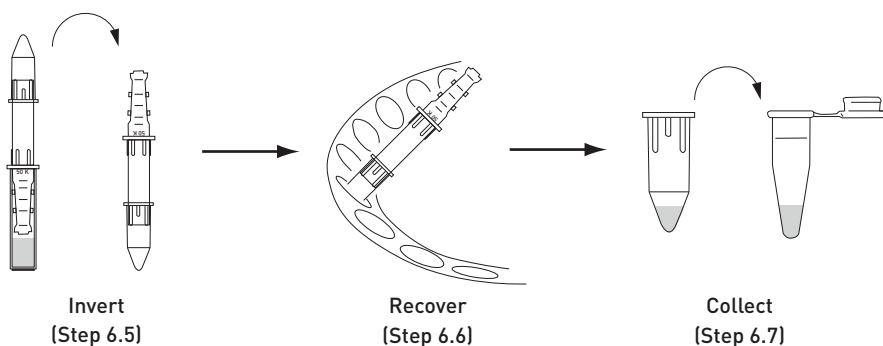

Figure 7 Optional purification and concentration of the labeled antibody conjugate
6.5 Invert the antibody concentrator into the conical collection tube as shown in Figure 7.